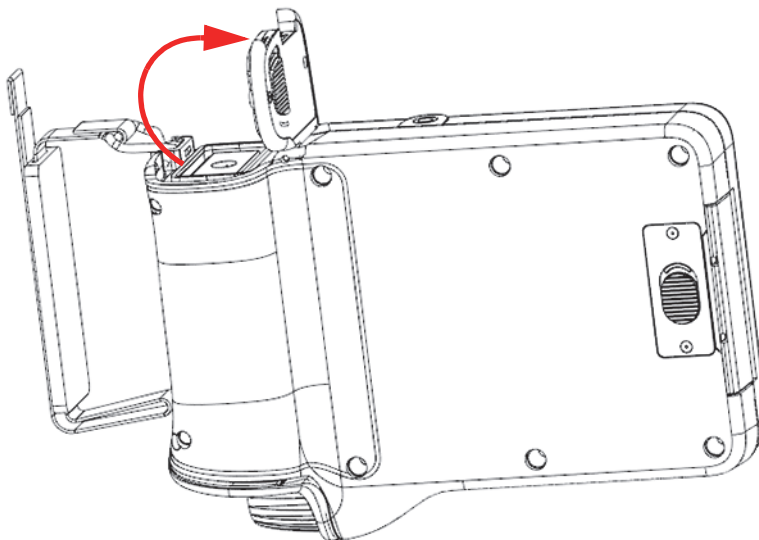

Figure 4-2 Battery compartment—cover open
3. Lift the cover to the fully open position (see Figure 4-2 on page 46).